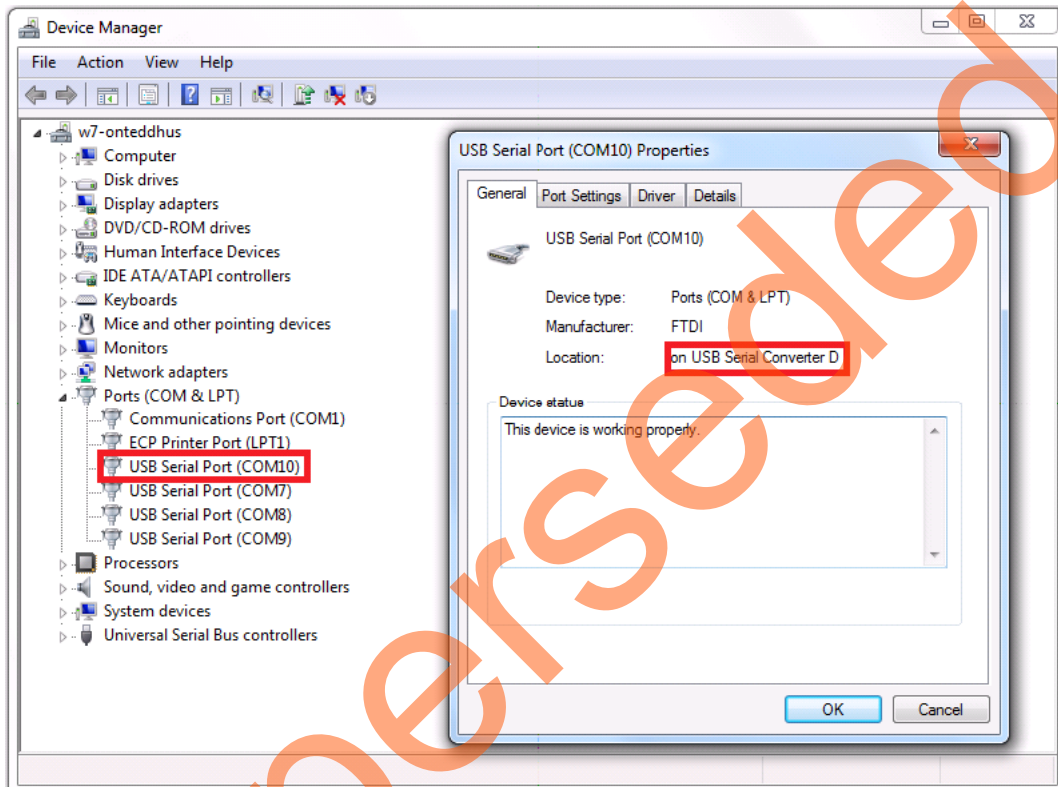

Figure 35 • Device Manager Window
2. Connect the host PC to the J24 connector using the USB Mini-B cable. The USB to UART bridge drivers are automatically detected. Of the four COM ports, select the one with Location as **on USB Serial Converter D**. Figure 35 shows an example Device Manager window.